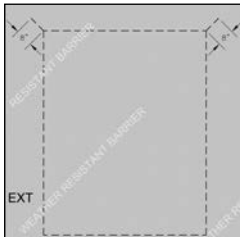

FIG. 5
- E) Cut the weather-resistant barrier (WRB) along the perimeter of the rough opening. Ensure the WRB is cut flush with the sheathing and is not wrapped into the rough opening. (Fig. 5)
- F) From the exterior, cut the top of the WRB to form a flap. (Fig. 5)